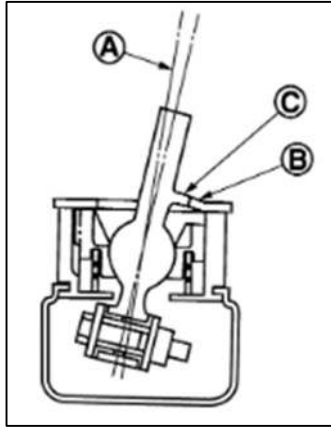

Figure 25
- Move the shifter guide plate (B) against the shift selector tab (C) shown in Figure 25